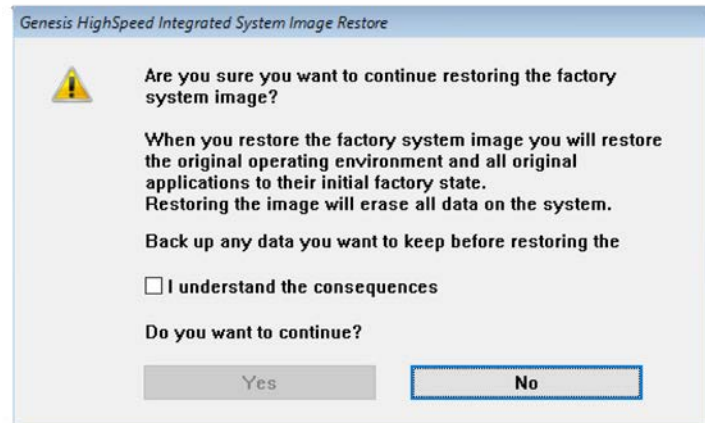

Figure C.18: Genesis HighSpeed Integrated System Image Restore
- 4 When the message about the consequences of the restore appears (see Figure C.18), press the TAB key to check that the keyboard is recognized (this can take a few seconds).